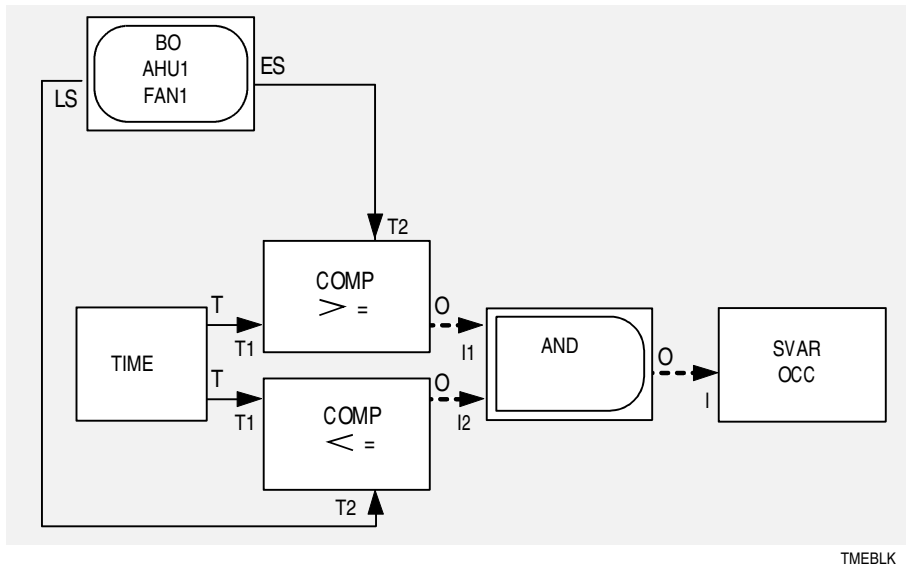

Figure 94: TIME Block Example
The TIME block in this example (Figure 94) is used to determine occupancy mode. Two attributes of the BO object, Early Start Time (ES) and Latest Stop Time (LS), are inputs to the COMP blocks. If the current time is greater than or equal to the Early Start Time, and less than or equal to the Latest Stop Time, then occupancy mode (OCC) is set to True.